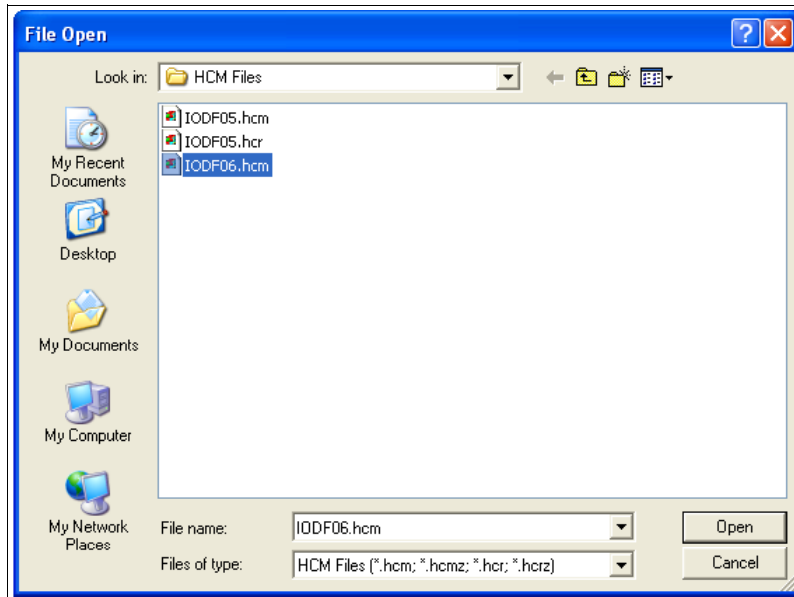

Figure 6-13 HCM File Open IODF06.hcm
1. Select the current work IODF using HCM. We use SYS6.IODF06.WORK for our example. See Figure 6-13 on page 167.